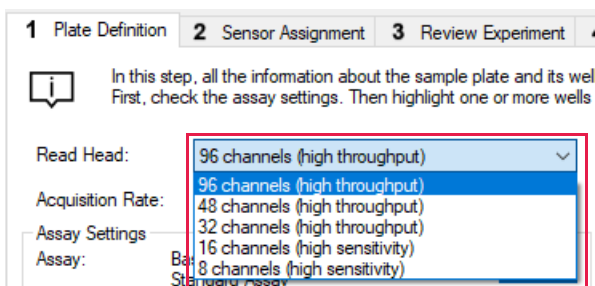

Figure 7-2: Selecting Read Head Channels
7. Click on the drop-down list for Read Head to select 96, 48, 32, 16 or 8 channels (Figure 7-2) as the new Read Head setting. An individual assay is defined as a series of steps or dips starting with pick up of the biosensors, followed by the assay steps, and ending with ejection of biosensors back into the biosensor tray or disposal chute. A Quantitation method file may contain multiple assays.